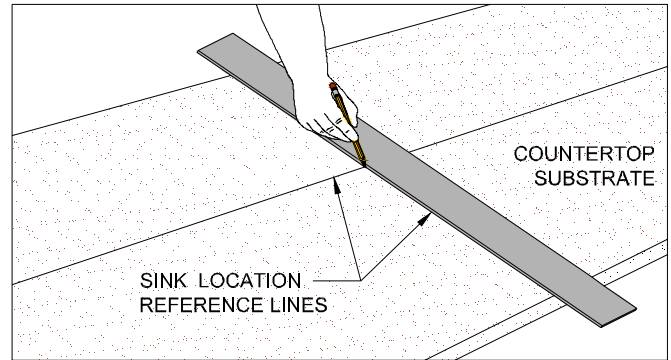

Figure 14A
- Pencil the sink location on the substrate with a vertical and horizontal cross hair. (FIG. 14A)